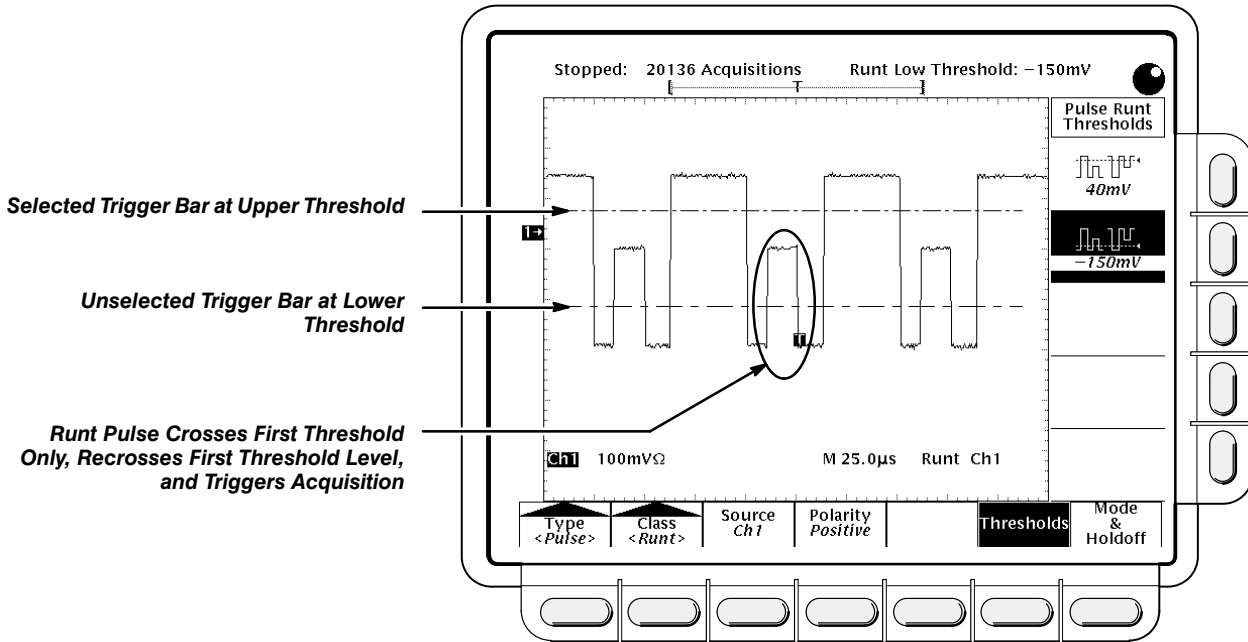

Figure 3-58: Main Trigger Menu—Runt Class
1. Press **TRIGGER MENU** → **Type** (main) → **Pulse** (pop-up) → **Class** (main) → **Runt** (pop-up) → **Source** (main) → **Ch1, Ch2, Ch3** (**Ax1** on the TDS 620A), or **Ch4 (Ax2)** on the TDS 620A) (side). (See Figure 3-58.)
Note the position of the trigger indicator in Figure 3-58. Triggering occurs at the point the pulse returns over the first (lower) threshold going negative without crossing the second threshold level (upper). Be aware of the following considerations when using Runt triggering: